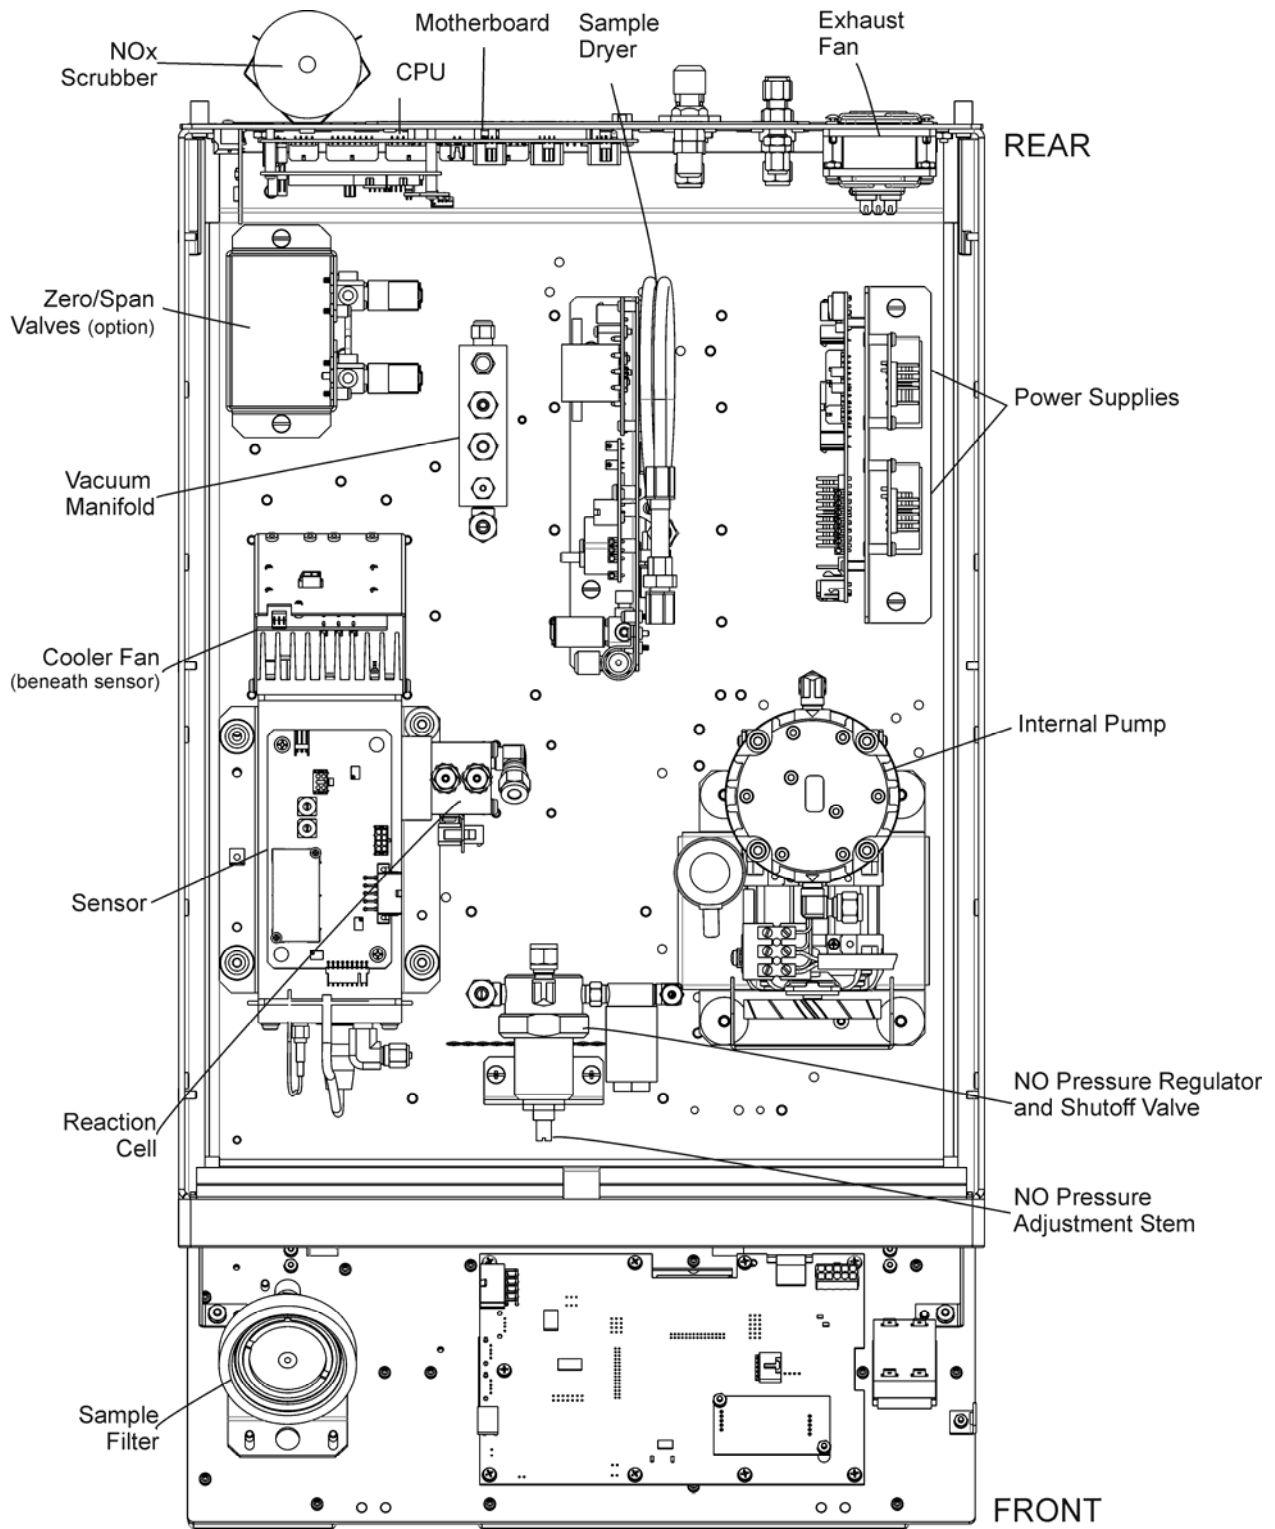

Figure 3-3. Internal Chassis Layout
Figure 3-3 illustrates the location of the internal chassis components.
- If the pressure is out of this range, check that the cylinder regulator is set to 20 PSIG, then drop the front panel and use a flat head screw driver to turn the NO Pressure Adjustment Stem (Figure 3-3) to adjust the NO pressure regulator: clockwise to increase; counter-clockwise to decrease.